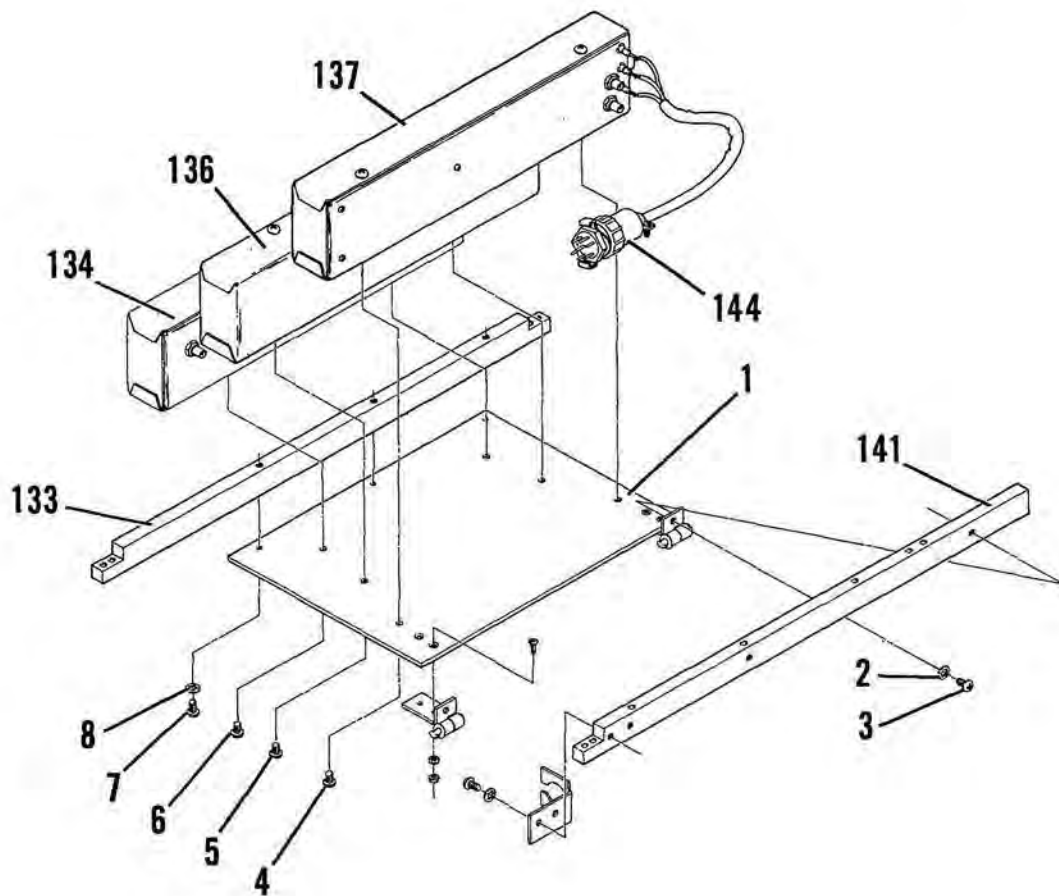

Figure 6-6 Lower Floor Disassembly and Reassembly
B. Remove 120 MHz GENERATOR ASSEMBLY (134) (Fig. 6-6) by removing:
1. Two Phillips screws (6) which hold 120 MHz Generator Assembly (134) to Lower Floor (1).
C. Remove 100 MHz AMPLIFIER/108 MHz MIXER (136) (Fig. 6-6) by removing:
1. Two Phillips screws (5) which hold 100 MHz Amplifier/108 MHz Mixer (136) to Lower Floor (1).
D. Remove 120 MHz RECEIVER (137) (Fig. 6-6) by removing:
1. Circular connector (144). Unplug by rotating connector locking clamp free of latch at mating connector.
3. Two Phillips screws (4) which hold 120 MHz Receiver (137) to Lower Floor (1).